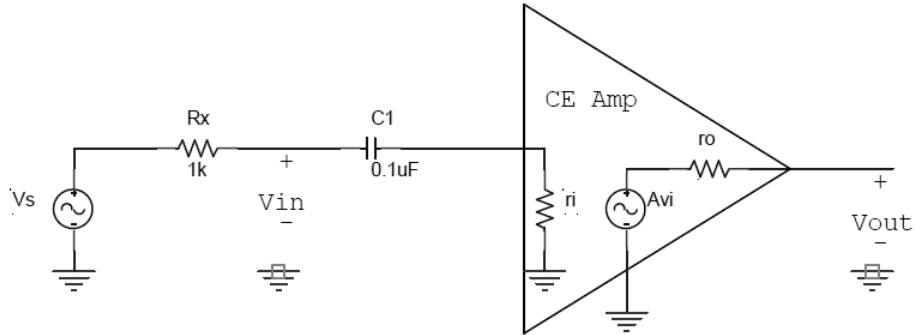

Figure 7-2 Input Impedance Measurement Setup
The determination of input impedance in the laboratory can be achieved by applying an AC source to the input via a known sourcing resistance. Figure 7-2 shows the required measurement setup.  $C_i$  is included only as a coupling capacitor and has essentially zero impedance at the measurement frequency. Voltages  $V_x$  and  $V_i$  are measured and used to calculate the input current  $I_i$ .  $R_i$  is simply the ratio of  $V_i$  to  $I_i$ .
12. Measure the input impedance  $r_i$ . To do this, use the setup shown in the circuit diagram in Figure 7-2. Use the input signal from the function generator ( $100mV_{p-p}$  @ 4kHz).